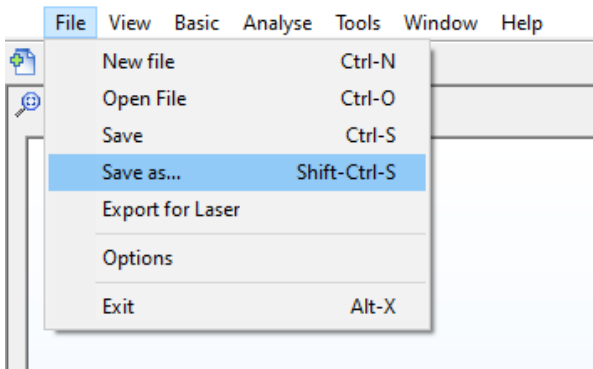
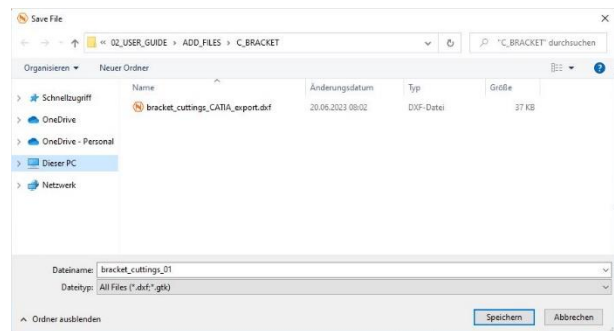

Figure 164
Figure 165
2. In order not to overwrite the original file save the opened file with **[Save as...]** (Figure 164) to a new file "bracket_cuttings_01.dxf" (Figure 165).